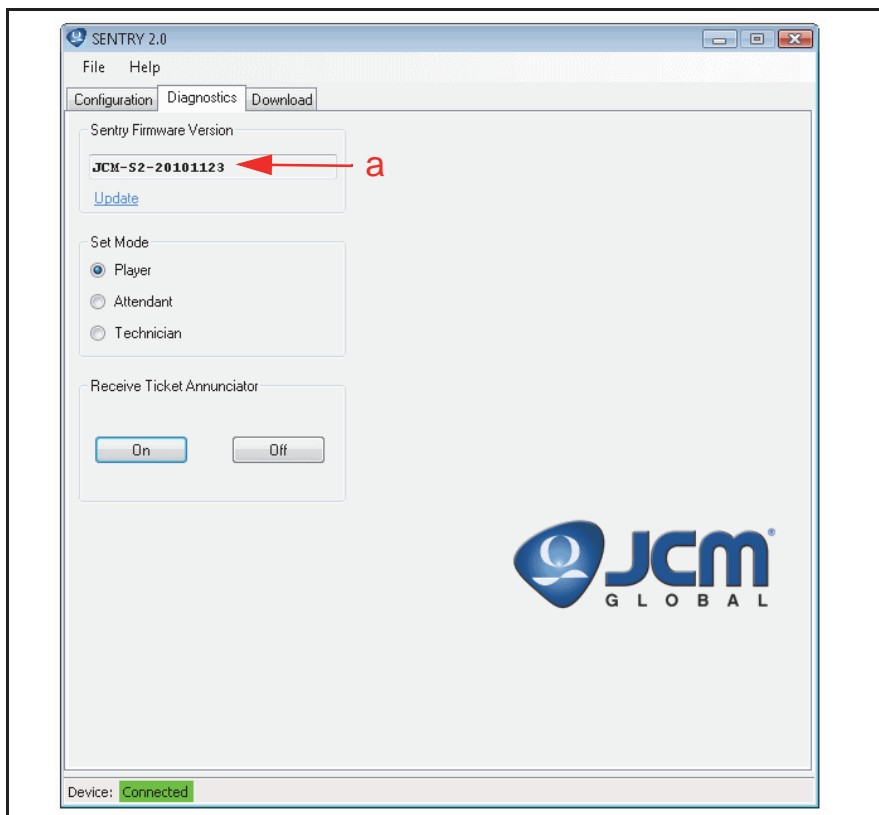

Figure 9 SENTRY 2.0 View Firmware Version Screen
2. The "Firmware Version" window (Figure 9 a), displays the Firmware Version installed in the Sentry 2.0 Unit that is currently connected to the Sentry 2.0 Configuration utility via the USB Port.